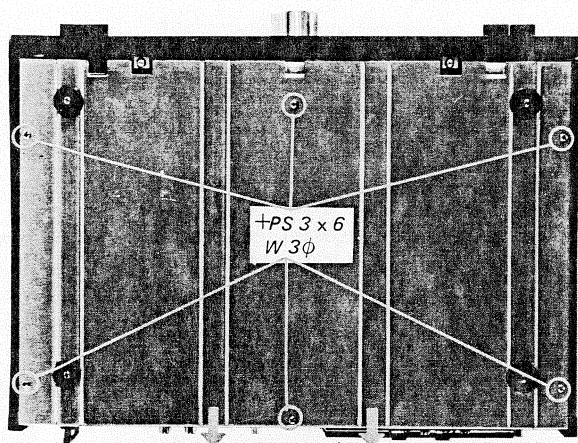

Fig. 2-2 Bottom plate removal
2. Remove the six screws (+PS 3 X 6) at the bottom of the tuner and pull the bottom plate in the direction indicated by the arrow in Fig. 2-2.